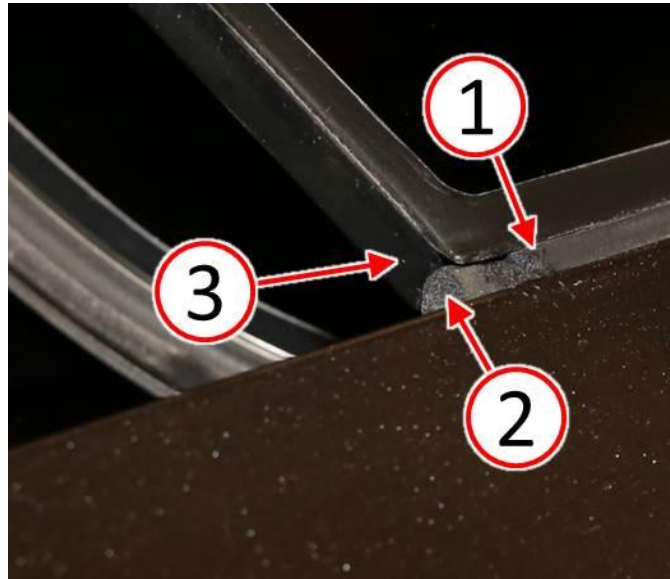

Fig. 8 Insert Foam Stuffer Flush With Sunroof Edge
10. Working quickly before the glue dries, insert the foam stuffer (2) into the sunroof fixed pane bulb seal (1) until the foam stuffer (2) is flush to 0.5 mm overflush in relation to the sunroof fixed pane front edge (3) (Fig. 8).